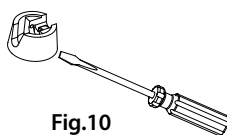

Fig.10
2. You will need a screwdriver to remove the green cover from your Heineken keg (Fig. 10).